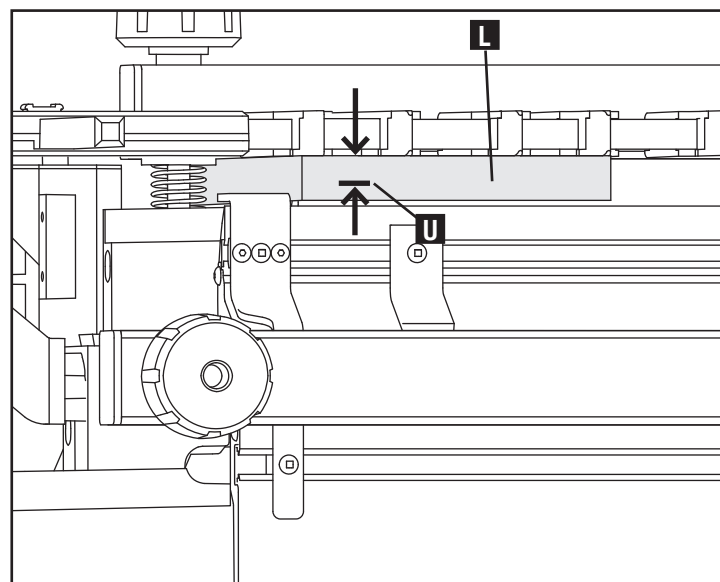

Fig. E7
- b. Measure down from the top surface of the pinboard (L) Fig. E7 (which is mounted in horizontal position) and make a mark (U) at the end of the board the same distance as the tail height.